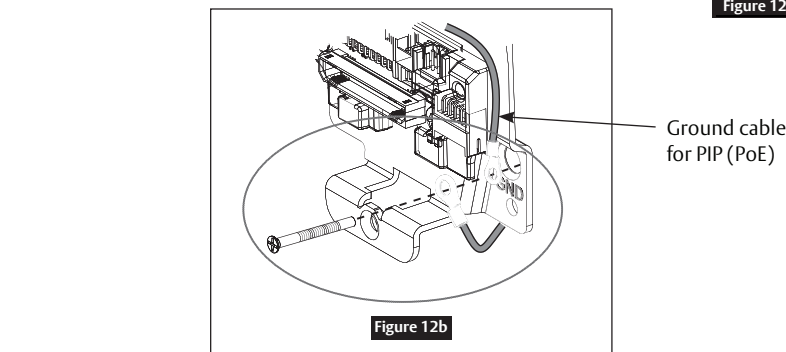

Figure 12b
5. Attach to bottom right corner using (1) #8-32 x 1-7/8" flat head machine screw. (Figure 12b)